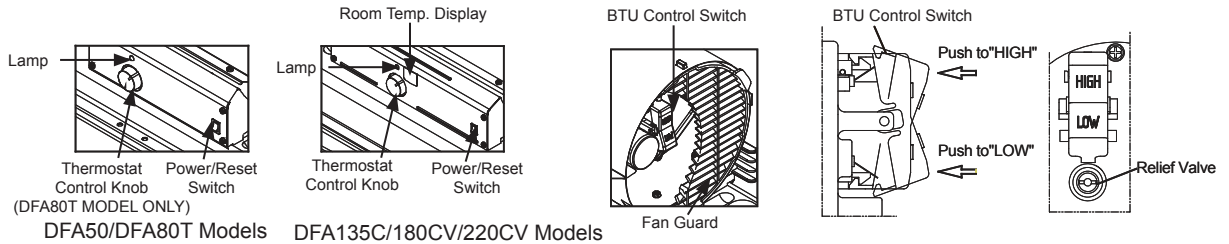

Figure 8. Controls for All Models
- 4) Position the Handles on top of fuel tank flange. Insert screws through handles, fuel tank flange and wheel support frames as shown in Figure 8 and attach nut finger tight after each screw is inserted.
5. Push “BTU control Switch” to “High” level. (See Figure 8.) (DFA180CV/220CV Models Only)